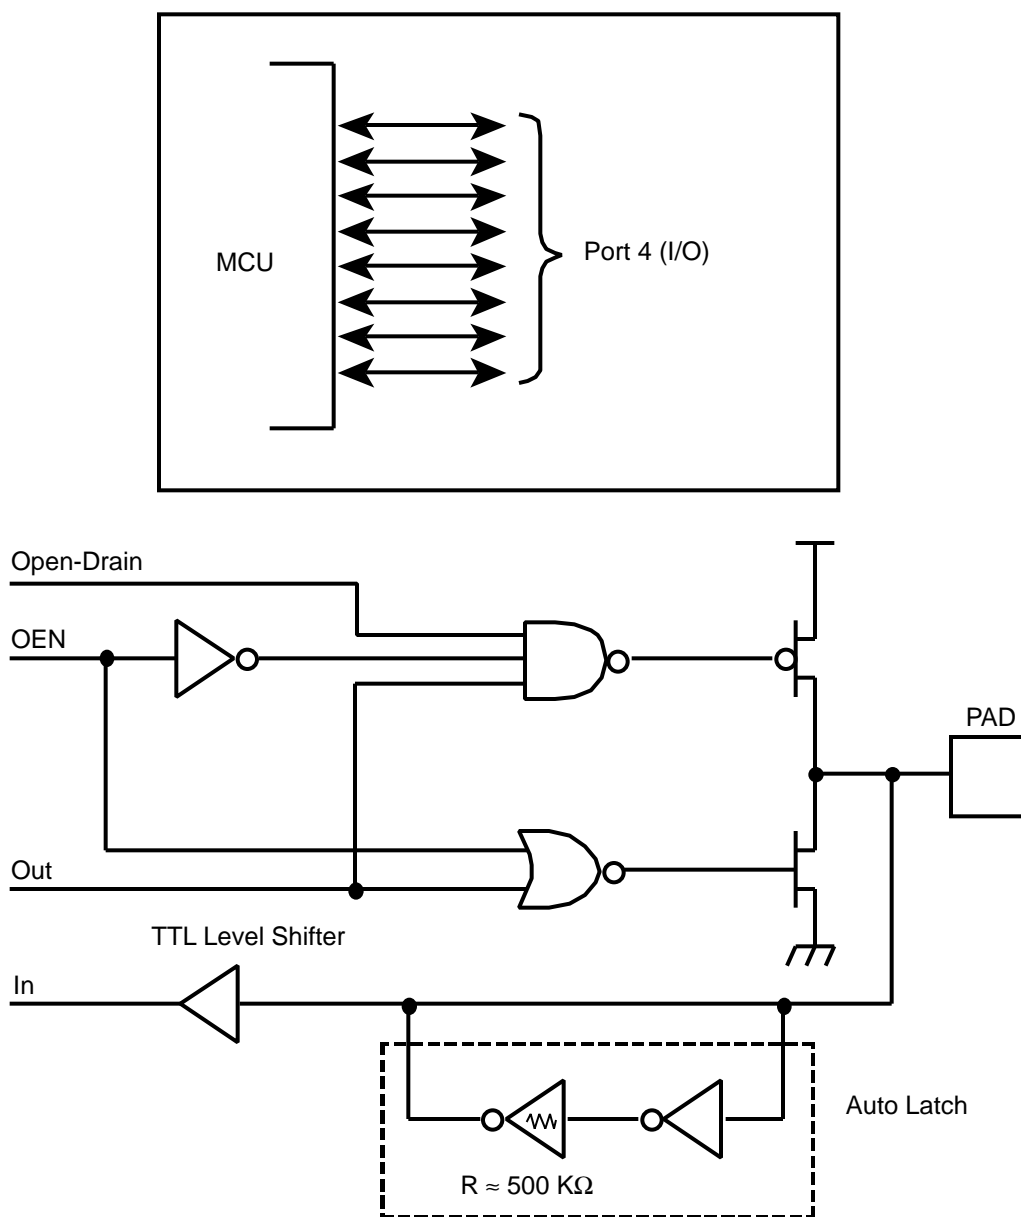
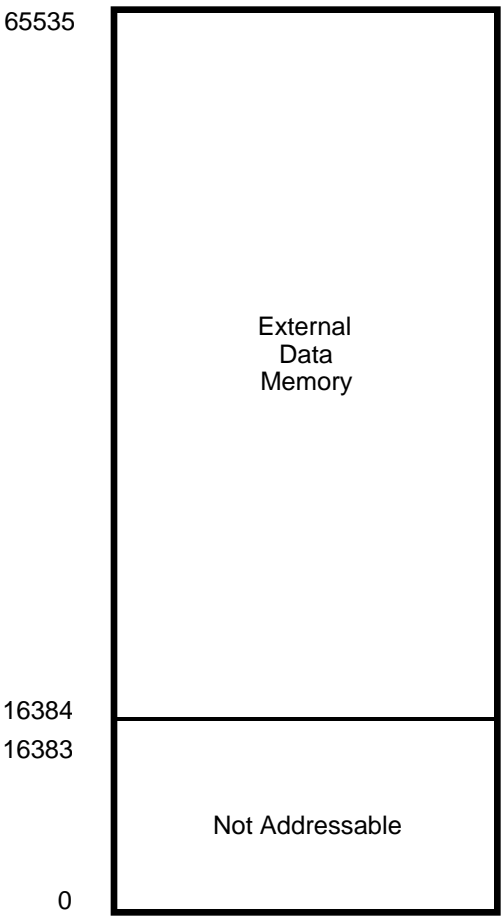

Figure 18. Port 4 Configuration
Figure 20. Data Memory Configuration
Port 4 (P47-P40). Port 4 is an 8-bit, bit programmable, bi-directional, CMOS-compatible port. Each of these eight I/O lines can be independently programmed as an input or output or globally as an open-drain output. Port 4 is always available for I/O operation (Figure 18). Port address (F)02.
Data Memory (/DM). The ROM version can address up to 48 KB of external data memory space beginning at location 16384. The ROMless version can address up to 64 KB of external data memory. External data memory may be included with, or separated from, the external program memory space. /DM, an optional I/O function that can be programmed to appear on pin P34, is used to distinguish between data and program memory space (Figure 20). The state of the /DM signal is controlled by the type instruction being executed. An LDC opcode references PROGRAM (/DM inactive) memory, and an LDE instruction references DATA (/DM active Low) memory.
Register File. The Register File consists of four I/O port registers, 236 general-purpose registers and 16 control and status registers (Figure 18). There are eight further registers for I/O ports 4, 5 and 6 in the Expanded Register File (Bank F, R9-R2) (Figure 20).
The upper nibble of the register pointer (Figure 20) selects which group of 16 bytes in the register file, out of the full 236, will be accessed. The lower nibble selects the expanded register file bank and in the case of the Z86C61/62/96, only Bank F is implemented. A 0H in the lower nibble will allow the normal register file to be addressed, but any other value from 1H to FH will exchange the lower 16 registers in favor of an expanded register group of 16 registers.